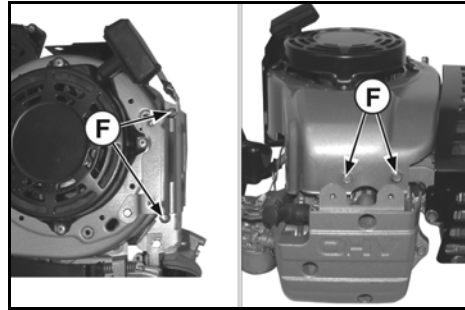

Figure 13
1. Install the oil fill tube and dipstick. Install the screws (F, Figure 13) and blower housing.